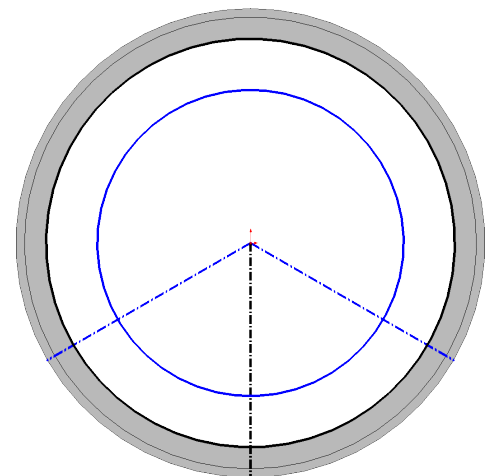

Fig. 14
Step 8. **Sketch 3 radii from Origin**  **to outside edge of cylinder**, **Fig. 14**. **One radius vertical** and one on each side of the vertical centerline. To terminate chain, double click back on the line you have just sketched.